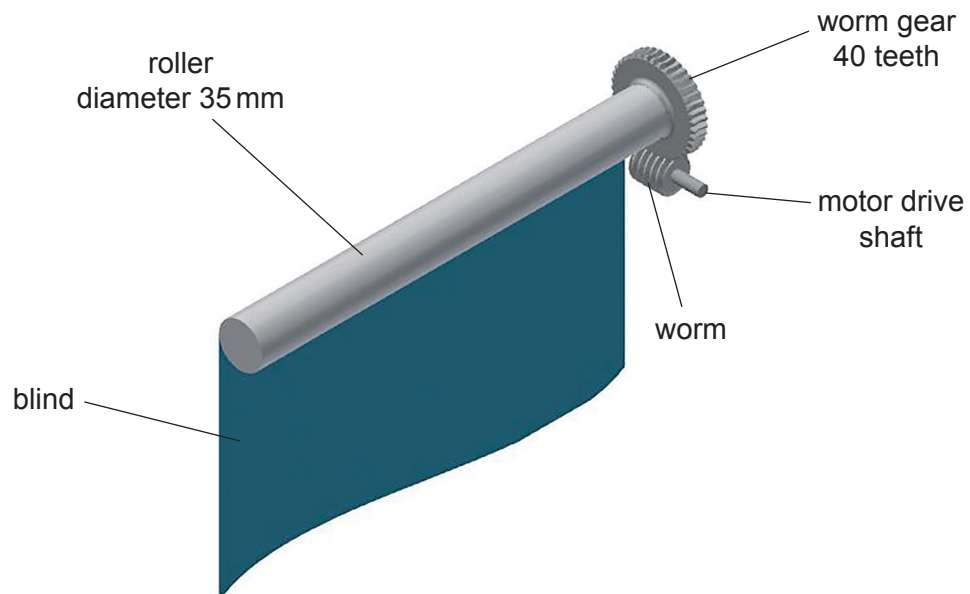

Fig. 1.2
Fig. 1.2 shows part of a prototype roller-blind mechanical drive system.
- (i) Explain **one** functional feature of a worm drive system which makes it useful in the roller-blind mechanical drive system shown in **Fig. 1.2**.
- (ii) Calculate the circumference of the roller in **Fig. 1.2** to the nearest mm.
Using information from **Fig. 1.2** and your answer to **part (b)(ii)**, calculate the required output speed of the DC motor in revolutions per minute (rpm). Show your working.
Study the roller-blind mechanical drive system in **Fig. 1.2** and explain **two** reasons why the speed of the blind increases throughout the raising cycle.